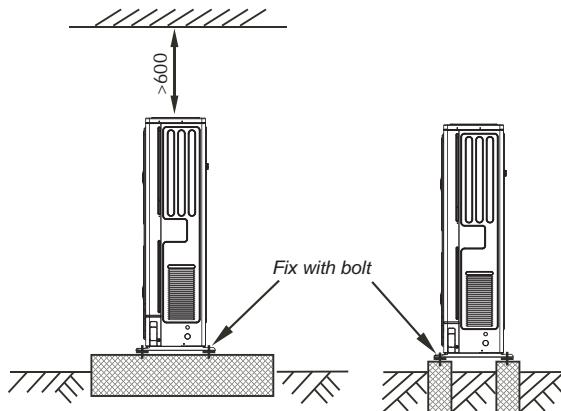

Fig.3-5
- Make concrete foundation according to the specifications of the outdoor units.(refer to Fig.3-5)
(refer to Fig.3-5)